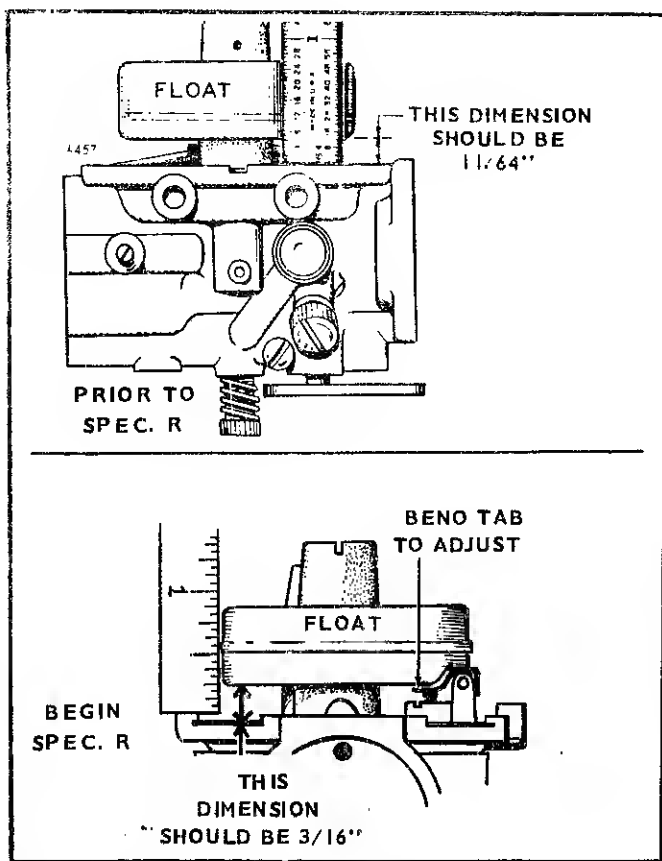

FIGURE 16. FLOAT ADJUSTMENT
Check the adjusting needles and nozzle for damage. If the float is loaded with fuel or damaged, replace it. The float should fit freely on its pin without binding. Invert the carburetor body and measure the float level (Fig. 16).
6. Check the float level with the carburetor casting inverted. See Fig. 16.